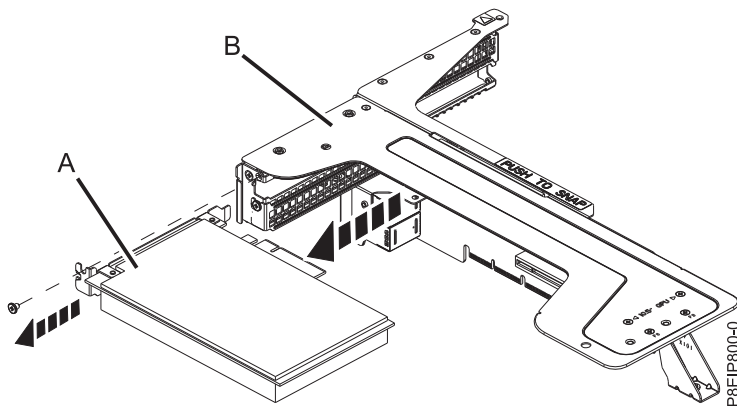

Figure 40. Removing a position 3 adapter from the riser
- g. Unplug an adapter (A) in position 3 from the PCIe adapter riser (B) as shown in Figure 40.